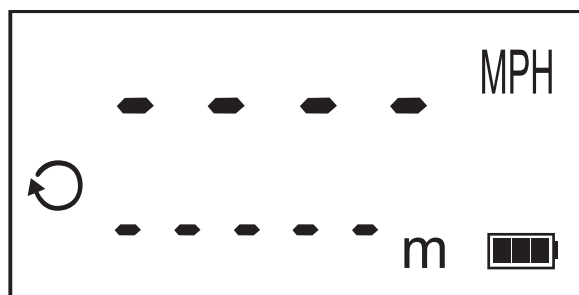

Figure 18
2. Press the  button. The display should look similar to Figure 18.